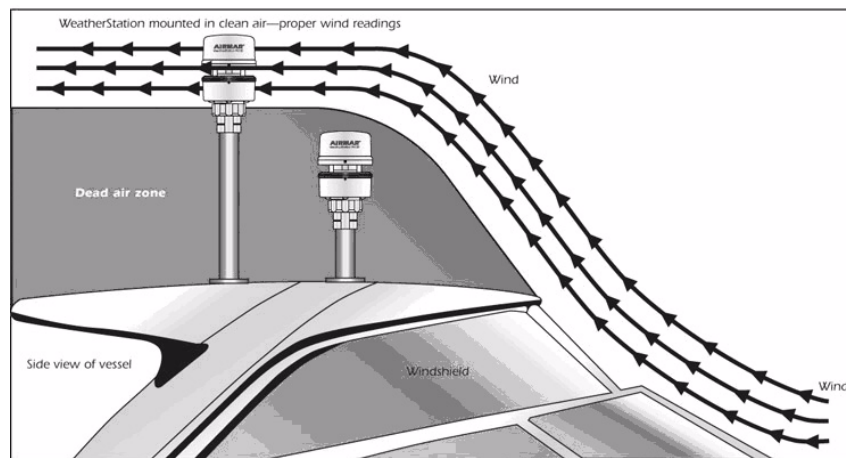

Figure 8. Mounting location
- Is the WeatherStation instrument mounted forward and low on the boat's hardtop in dead air? Move the instrument farther back and higher (see Figure 8).